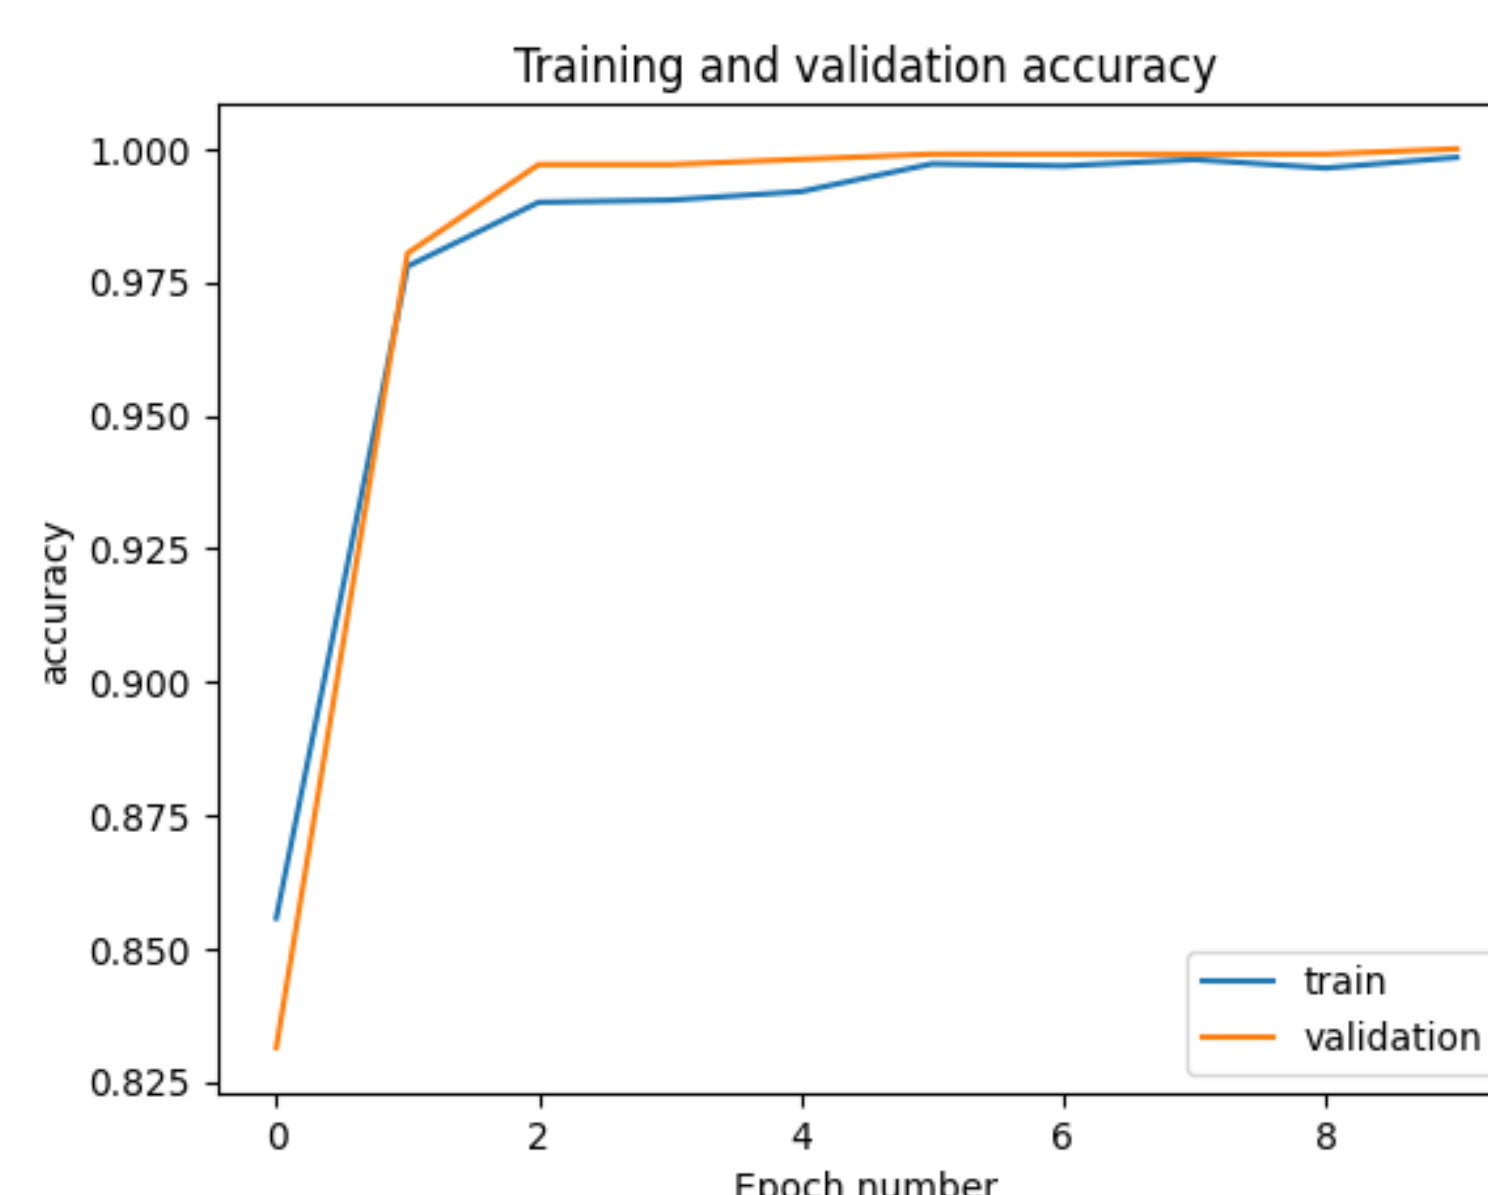

Figure 2. Recognition accuracy graph for training and validation set – Xception model
The model training accuracy graphs for the learning and validation set are shown in Figure 2. The accuracy metric (1) was adopted as the criterion for assessing the classification, which gives a result describing the operation of the model in all classes. It is calculated based on the ratio of the sum of true positive samples and true negative samples to the sum of all values in the error matrix [4]: